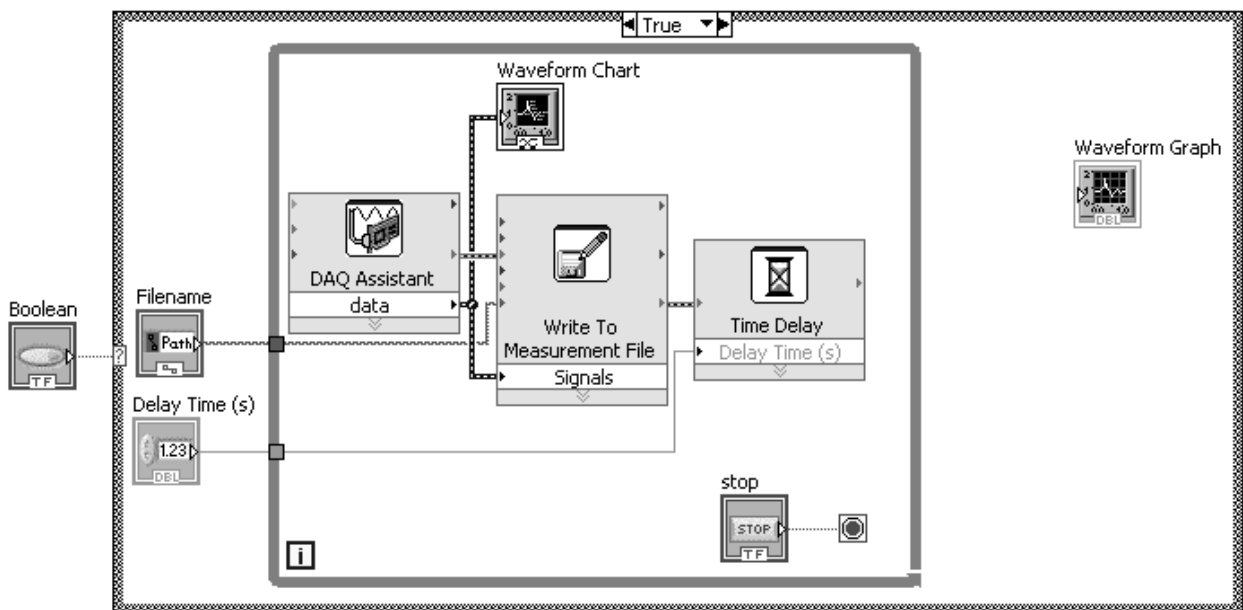

Figure 1.4.15 Example VI to continuously measure analog input data showing wiring
29. Wire terminals together as shown in Fig. 1.4.15. Wire the data output terminal from the DAQ Assistant to the waveform chart and the signals input terminal of the “Write to Measurement File” Express VI. Notice that the waveform chart changes to the dynamic data type when the wire is connected. You can start wiring from a wire that already connects two terminals.
**30.** Wire the error input and output terminals between the Express VIs as shown in Fig. 1.4.15.